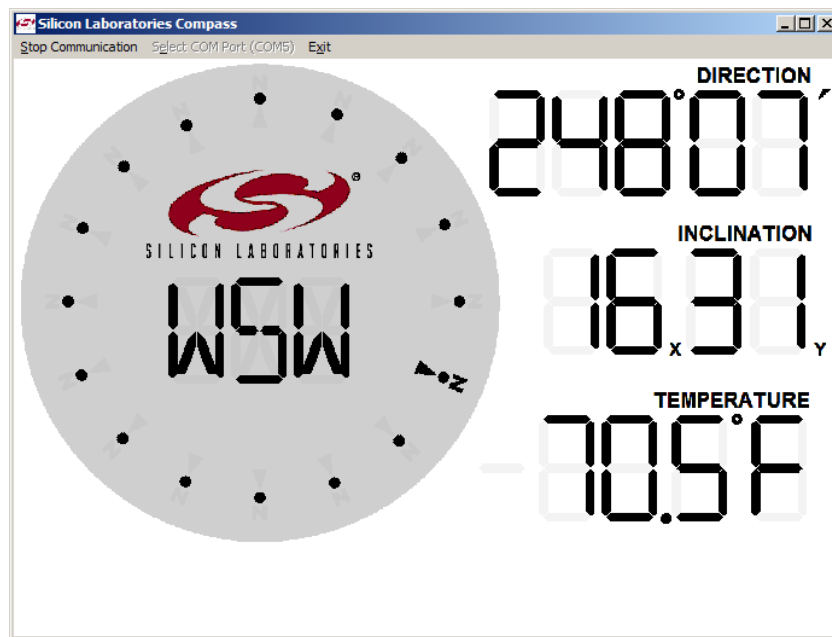

Figure 14. Compass Software Display
4. Press the "Start Communication" button in the Compass application. If the connection is successful, the application will begin displaying the Direction, Inclination and Temperature calculated by the compass board. The display is shown in Figure 14.